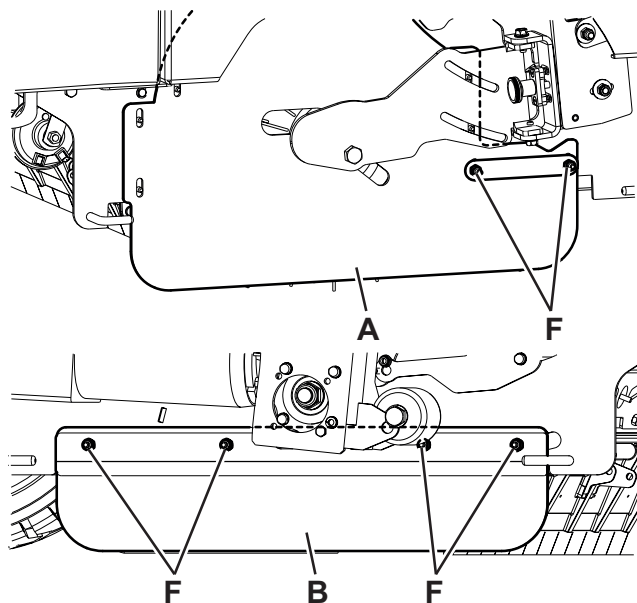
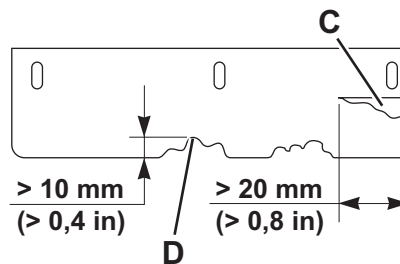
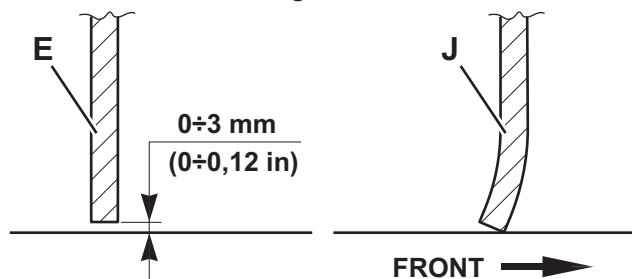
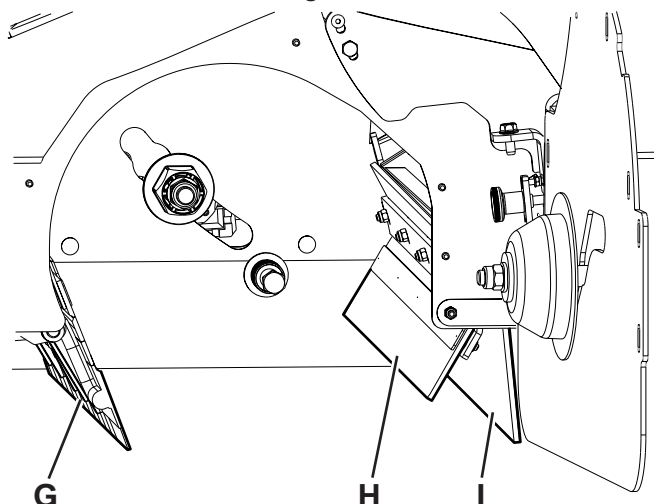

Figure 18
Figure 19
Figure 20
Figure 21
5. Check the condition of the side skirts (A, Fig. 18) and (B). Replace the skirts when they have cuts (C, Fig. 19) larger than 20 mm or cracks/tears (D) larger than 0.4 in (10 mm) (for skirt replacement, refer to the Service Manual).
6. Check that the distance from the floor of the side skirts (A, Fig. 18) and (B) is within 0 and 0.12 in (0 and 3 mm) (E, Fig. 20).
If necessary, loosen the nuts (F, Fig. 18) and adjust the skirt position. Finally, tighten the nuts (F).
8. Check the condition of the front (G, Fig. 21) and rear skirts (H) and (I). Replace the skirts when they have cuts (C, Fig. 19) larger than 20 mm or cracks/tears (D) larger than 0.4 in (10 mm).
9. Check that the front (G, Fig. 21) and rear skirt (I) slightly rub ground without being detached from it (J, Fig. 20).